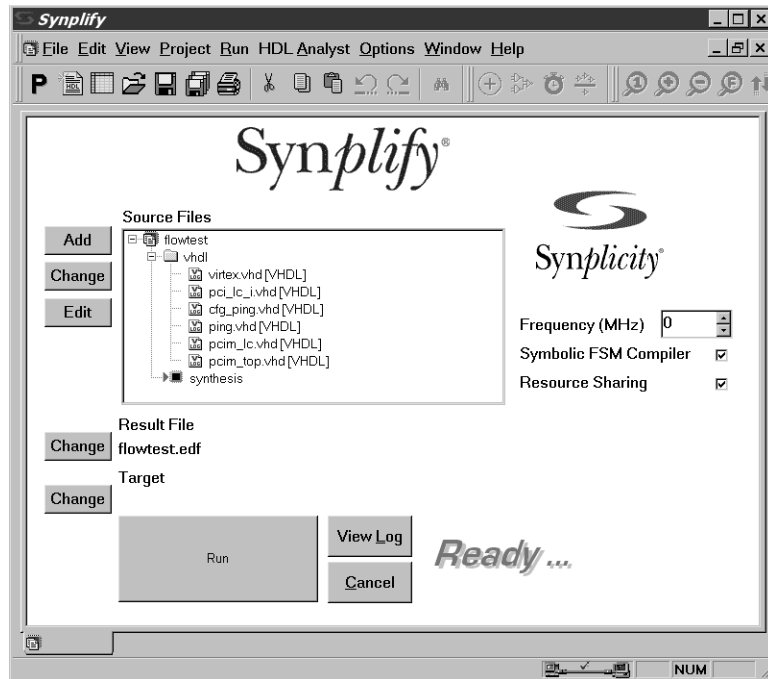

Figure 5-12: Project Window with Source Files
10. In the Source Files list, view the list of newly added source files by double-clicking the `flowtest/vhd1` folder (if it is not already open). Click and drag to reorder the source files in the hierarchical order shown in Figure 5-12.